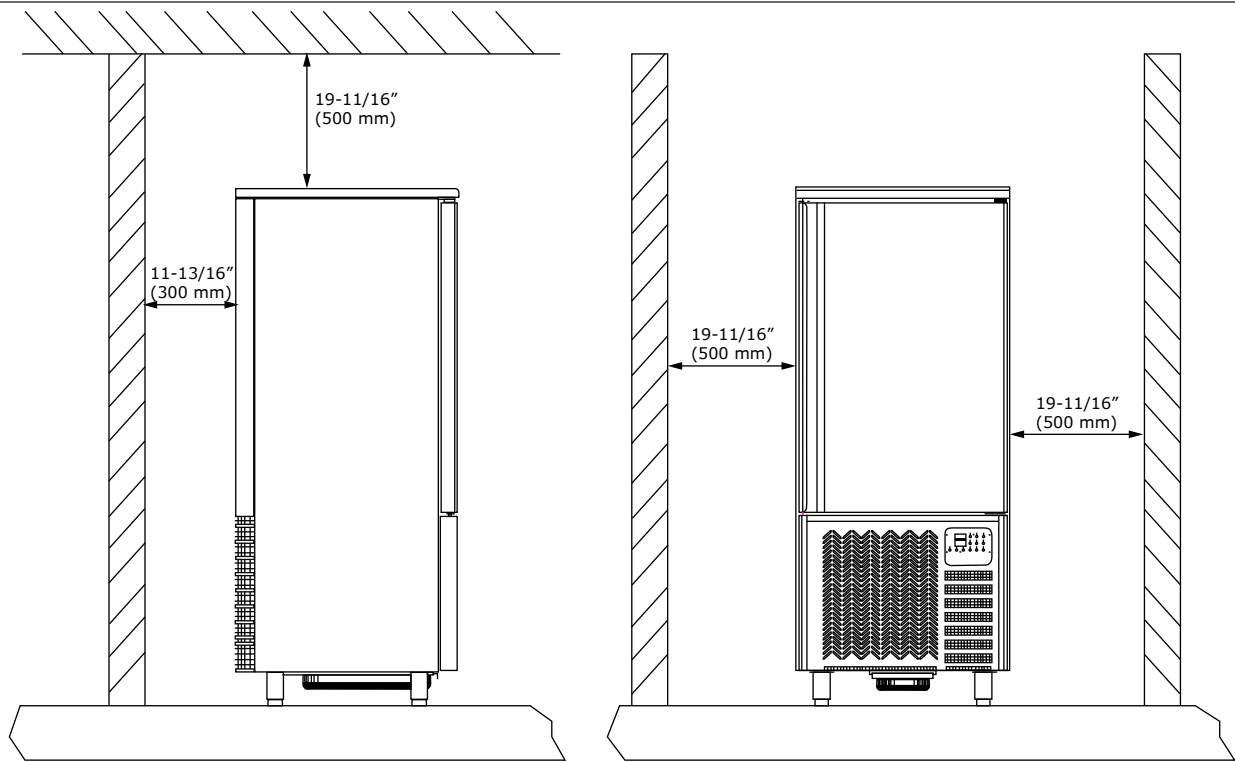

Figure 4: Required Clearance
- Allow for a space of at least 19-11/16" (500 mm) between the top of the unit and the ceiling (see Figure 4)